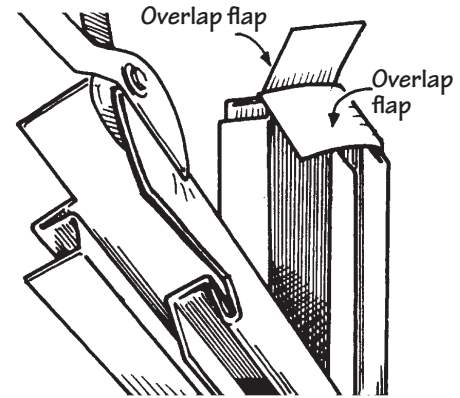

Figure 79.
- Corner posts on homes with a second-story overhang need to be capped by making the cuts shown (Fig. 79). Fold the flaps created over each other as indicated.